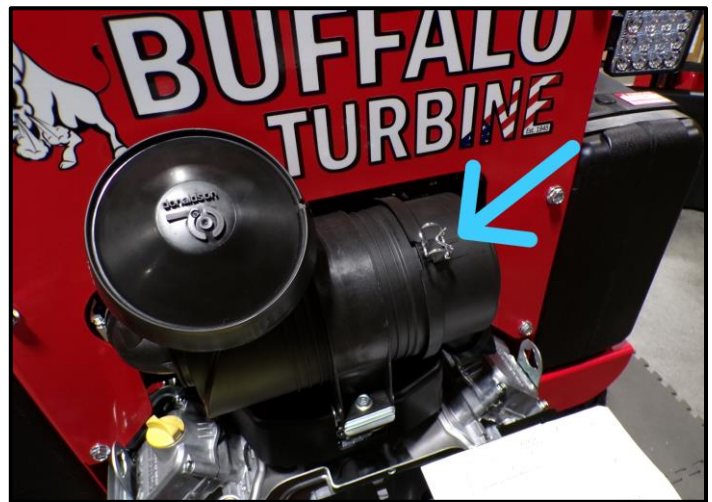

Figure 1 Air Cleaner Clamp
2. Undo the fasteners on the front and rear of the air cleaner [Figure 1].